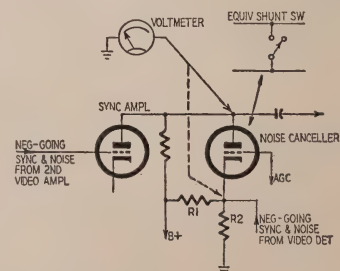

Fig. 5—A shunt type noise canceller.
3. *Shunt type.* Fig. 5 shows a shunt type noise canceller acting as a shunt switch. The switch conducts in the presence of noise above a level set by voltage divider R1, R2. The entire signal is removed when noise arrives at canceller.